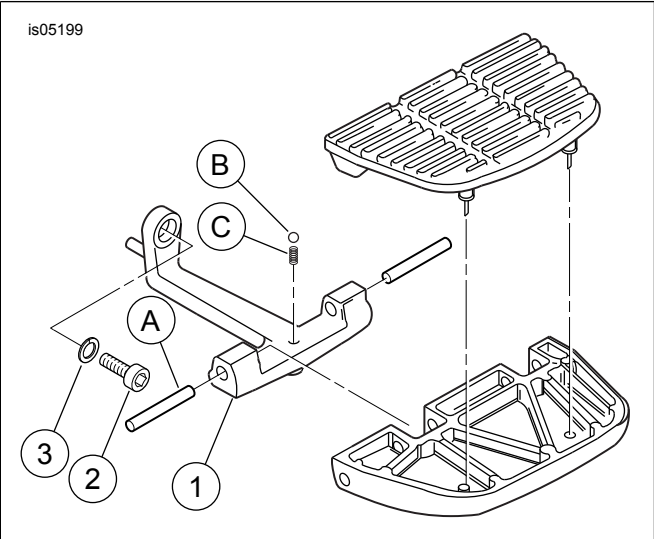

Figure 1. Service Parts: Chrome Passenger Footboard Bracket
See Figure 1 and Table 1.
1. See Figure 1 and Table 1. With the passenger footboard in the down position, pull the inboard side of the rubber insert pad off the footboard to expose the pivot pins (A).
2. Drive one pivot pin out of the bracket pivot hole into the center pocket of the footboard base, remove the pin and set it aside. Repeat for the second pin. Taking care not to lose the spring-loaded detent ball (B) underneath, set the footboard assembly aside. Remove the detent ball and spring (C), and set aside.
1. See Figure 1 and Table 1. Position a new chrome footboard bracket (1) against the rear fork bracket at the desired height. The left and right brackets are identical. With the locating peg on the bracket in the next lower hole, fasten the footboard bracket with a chrome hex socket screw (2) and chrome lockwasher (3) from the kit. Torque to 64 N·m (47 ft-lbs).